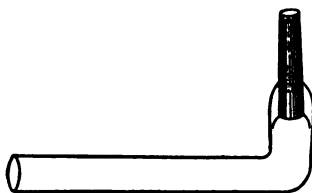

FIG. 27.
M. In nearly all burning materials sodium is present, and a very little is enough to make the yellow colour. But we can make a pure-coloured hydrogen flame. I have here a little piece of platinum-foil; I make it soft by heating, and then wrap it firmly round a knitting-needle; so I get a very serviceable little tube of platinum. I put a few millimetres of this in a glass tube which is slightly wider than it, and heat the place. You see how the glass tube lies round the platinum? Now it is melted and closed up all round, and I have a burner-tube with a platinum tip which I can afterwards bend to a right angle. (Fig. 27.)